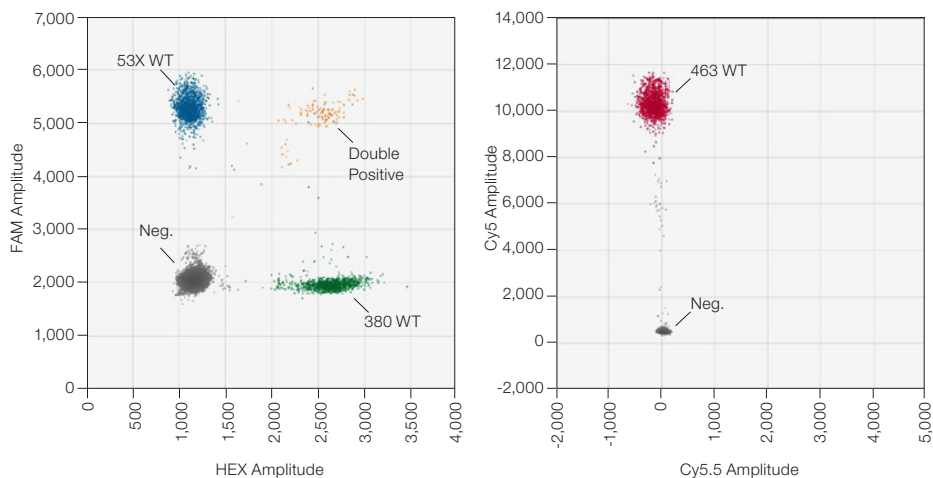

Fig. 17. 2-D plots for 1 well of positive control.
2. Observe the positive control wells to ensure that each plot has the expected negative and positive clusters. Refer to Figure 17 for an example 2-D plot for one well of positive control.